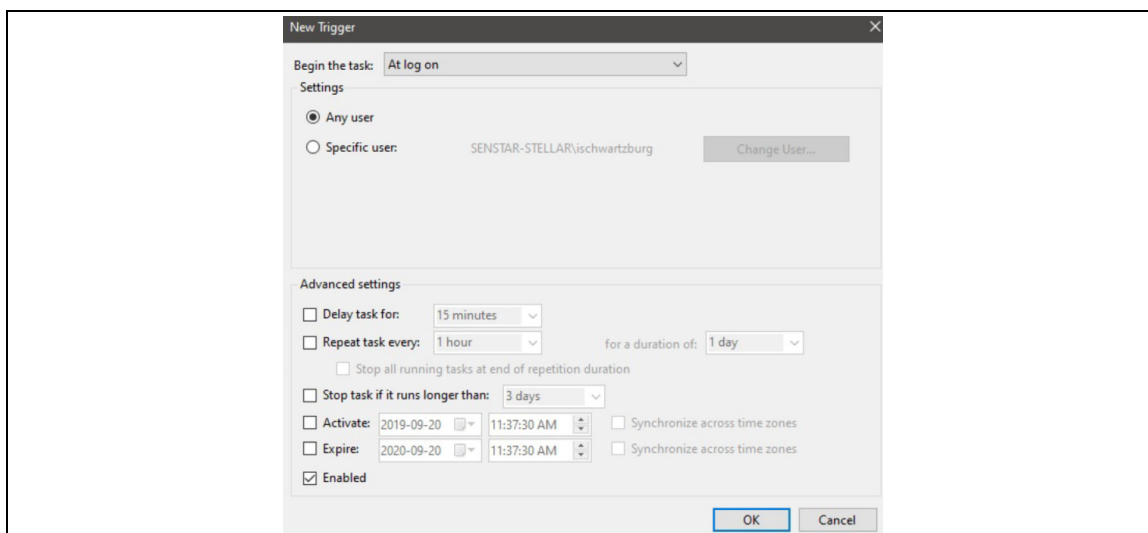

Figure 66: Configuring the Trigger
6. Next, configure the trigger (this is when the action will happen). Choose the “Trigger” tab and click “New” at the bottom. In the “Begin the task” drop down choose “At log on”. Make sure “any user” is selected (see Figure 66: .).